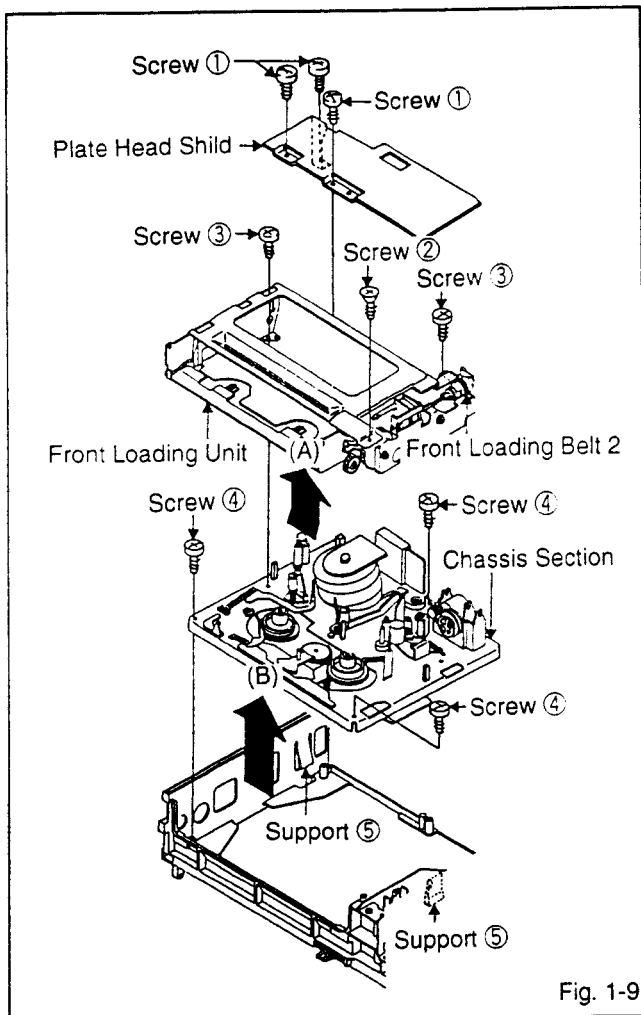

Fig. 1-9
9. FRONT LOADING UNIT AND CHASSIS SECTION (Refer to Fig. 1-9)